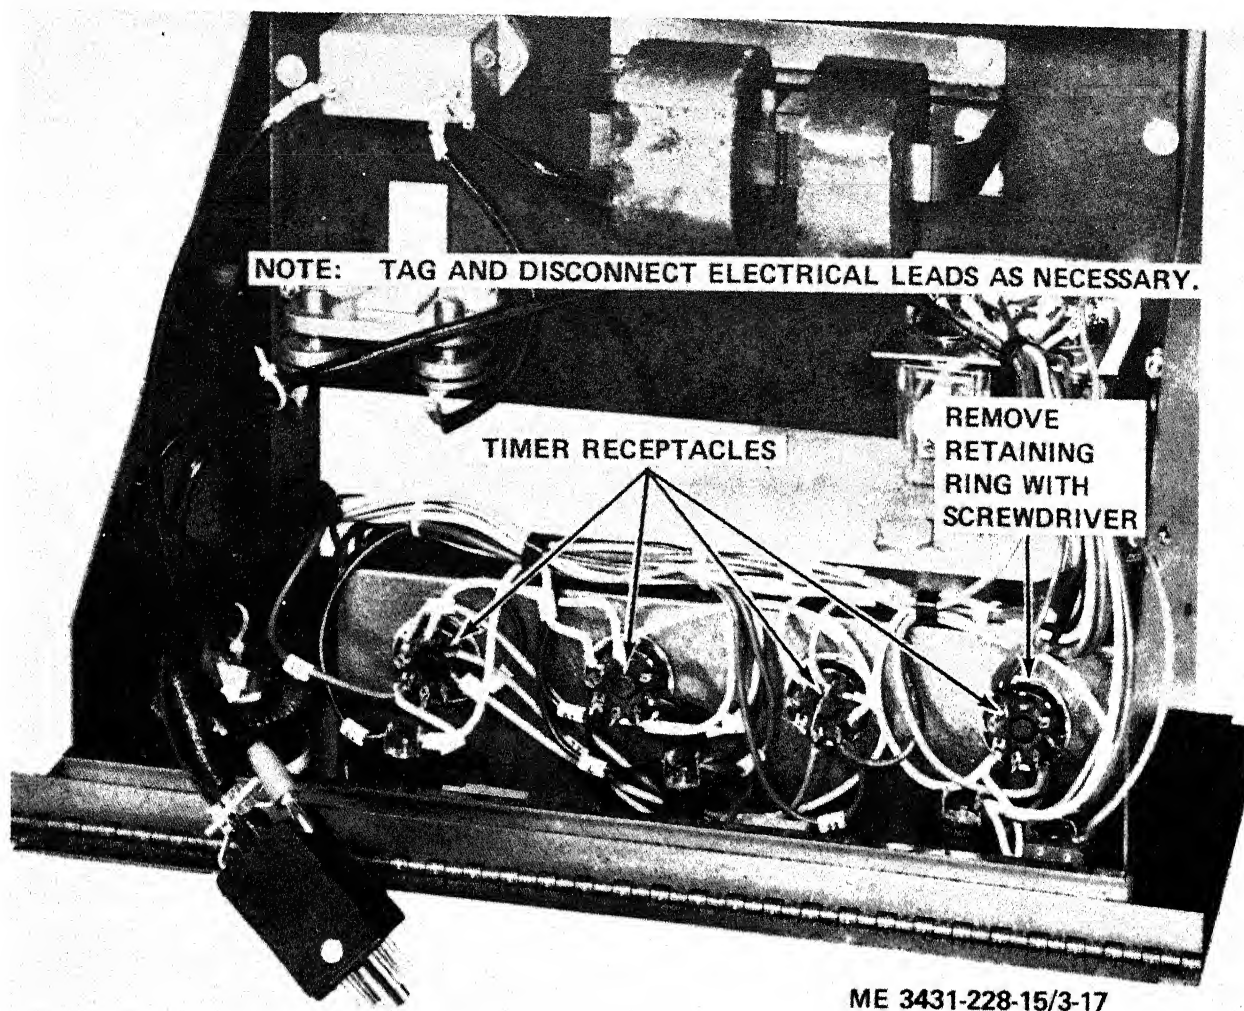

Figure 3-17. Timer receptacles, removal and installation.
- (1) Remove the timer and high frequency drawer (para 3-19).
- (2) Remove the timer (para 3-31).
- (3) Refer to figure 3-17 and remove the timer
- (1) Refer to figure 3-17 and install the timer receptacle.
- (2) Install the timer (para 3-31).
- (3) Install the timer and high frequency drawer (para 3-19).